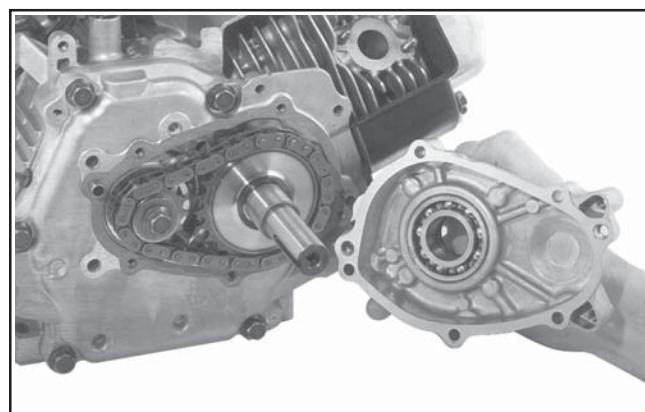

**Figure 9-54. Removing Reduction Housing Screws on CS4, CS6.**
2. Remove the mounting bolts securing the reduction system housing onto the crankcase. Place a flat pan or towel under the housing to catch any remaining oil. See Figures 9-54 and 9-55.